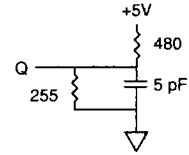

Fig. 2 OUTPUT LOAD EQUIVALENT
6. ^tHZCE and ^tHZWE are specified with CL = 5pF as in Fig. 2. Transition is measured ±500mV from steady state voltage.
12. Chip enable (CE) and write enable (\overline{WE}) can initiate and terminate a WRITE cycle.